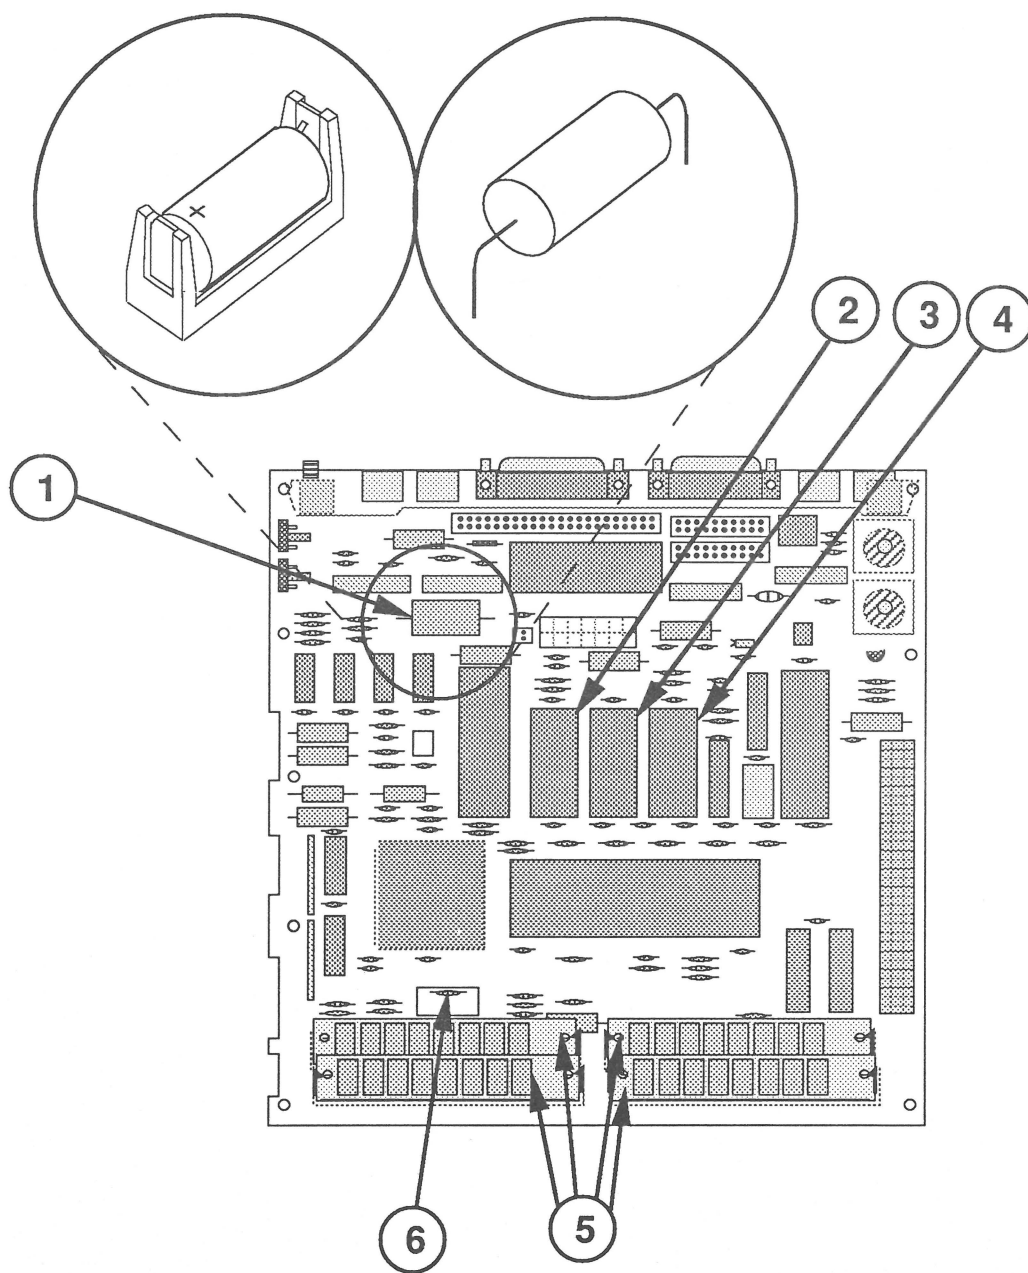

FIGURE 5
□ LOGIC BOARD—MACINTOSH SE (Figure 5)